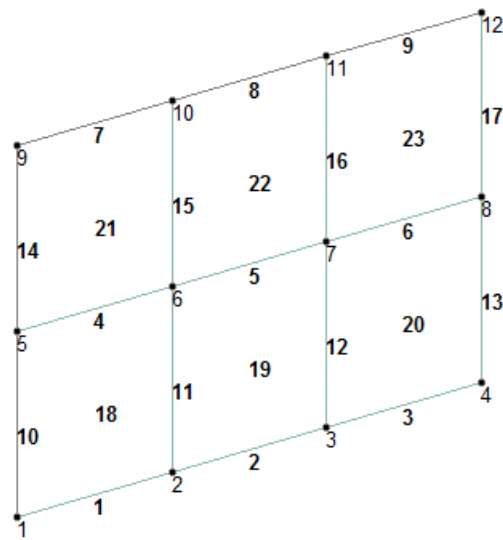

Figure 2-18 Plates created using commands
Step 4: Specify the commands in the **STAAD Editor** window as given below to create the remaining plates, as shown in Figure 2-18. Press SHIFT + P to view the plate numbers.